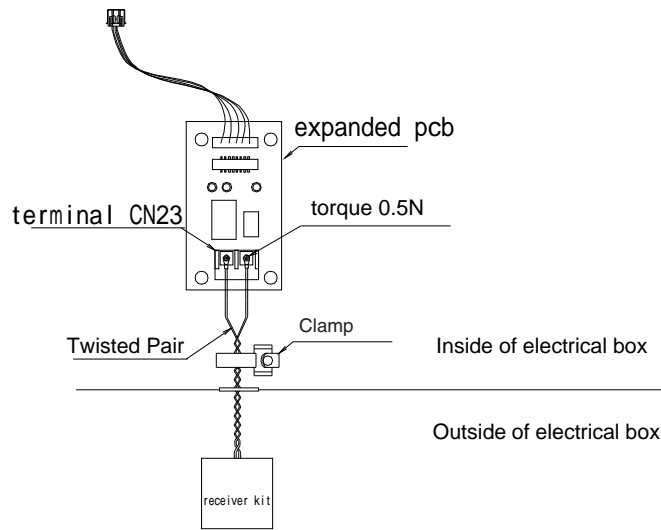

Fig. 1
(6) The install of expanded PCB :
- As shown in figure 1 below. Connect the receiver kit to terminal CN23 of the expanded PCB.